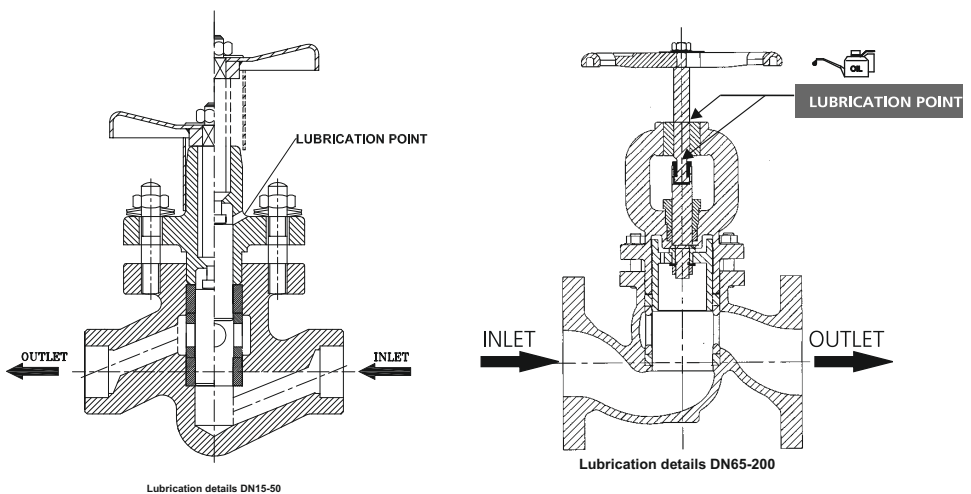

Figure 13 : Lubrication for piston valve
7.6. Lubrication Procedure for Piston Valves of all sizes: [Refer figure 13]